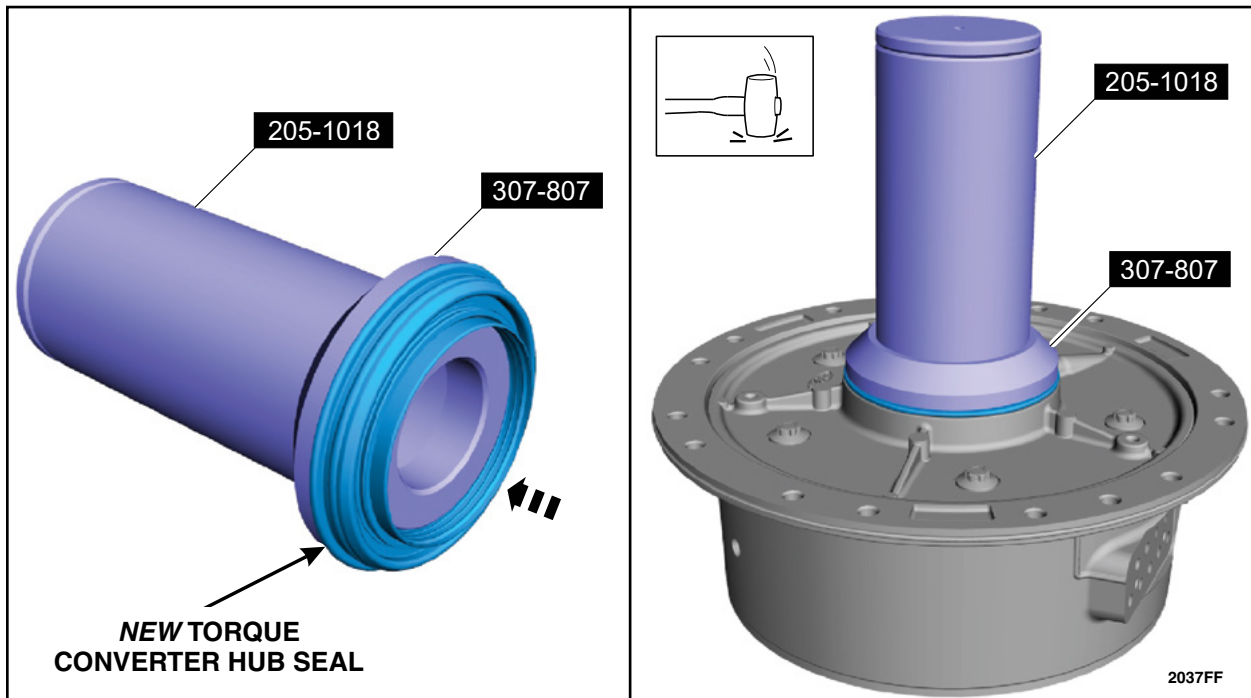

FIGURE 24
27. Install the *new* torque converter hub seal on special tools 205-1018 and 307-807. Using the special tools and a rubber mallet, install the *new* torque converter hub seal. See Figure 24.